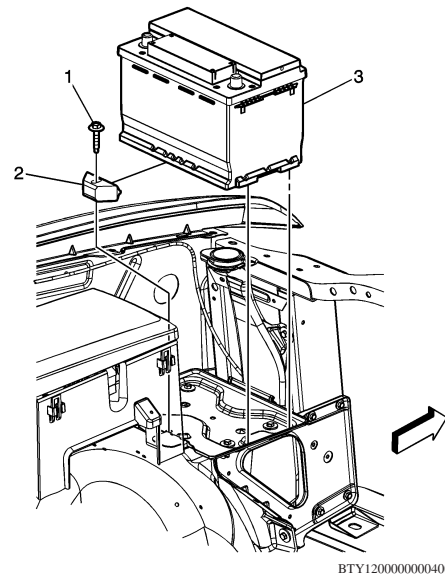

Fig. 6 Auxiliary battery removal
13. Remove auxiliary battery hold down bolt and hold down, **Fig. 6**.
2. Install auxiliary battery hold down and bolt, **Fig. 6**. **Torque** bolt to 18 ft. lbs.